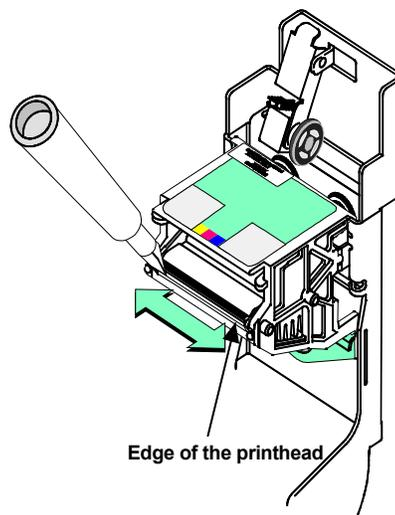

Figure 4-15: Clean the printing surface of the printhead
- 7 Clean the printhead. Move the cleaning pen back and forth along the length of the printhead edge. (See Figure 4-15 on page 4-15.) Be sure to completely clean the rounded edge of the printhead.